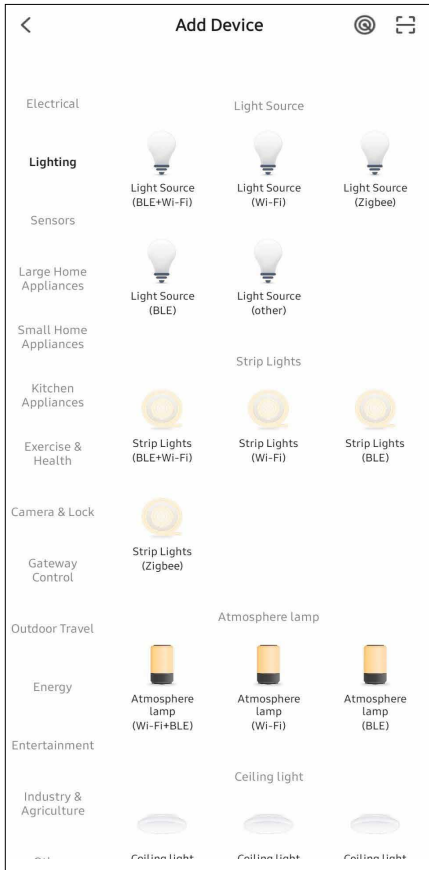

Figure 13
- 3 Select 'Lighting' from the left-hand side menu. (Fig.13)